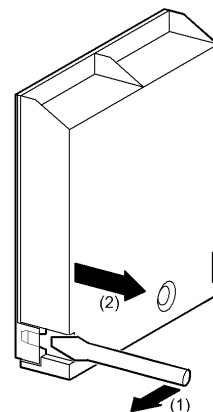

Fig. 5
- Prise cover loose using screwdriver in position (1) then lever off with screwdriver in position (2) at either side. See Fig. 5.